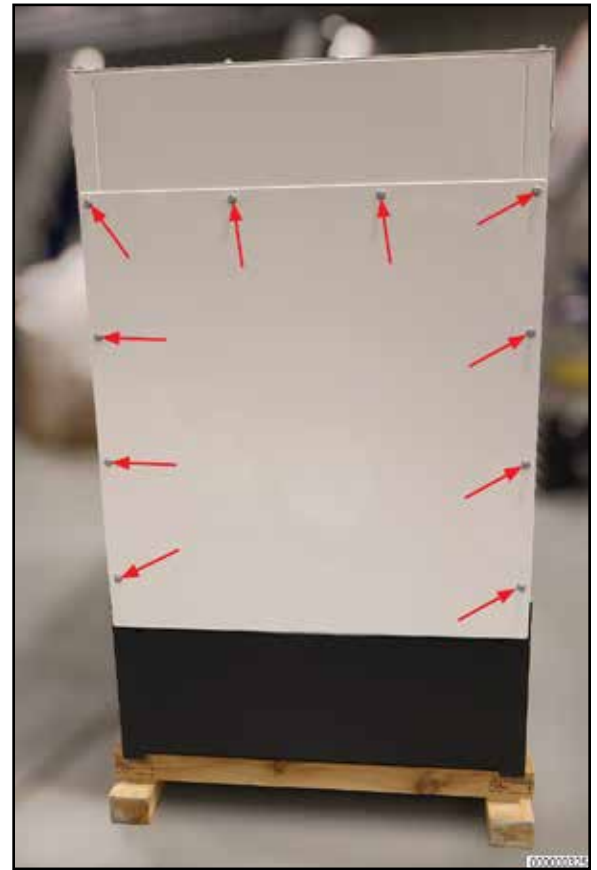

Figure 4
- **Step 6:** Using a 13 mm socket and driver, remove ten (10) bolts from the Rear Enclosure Frame Cover Plate, then set the panel on a sturdy flat work surface. (Figure 4)